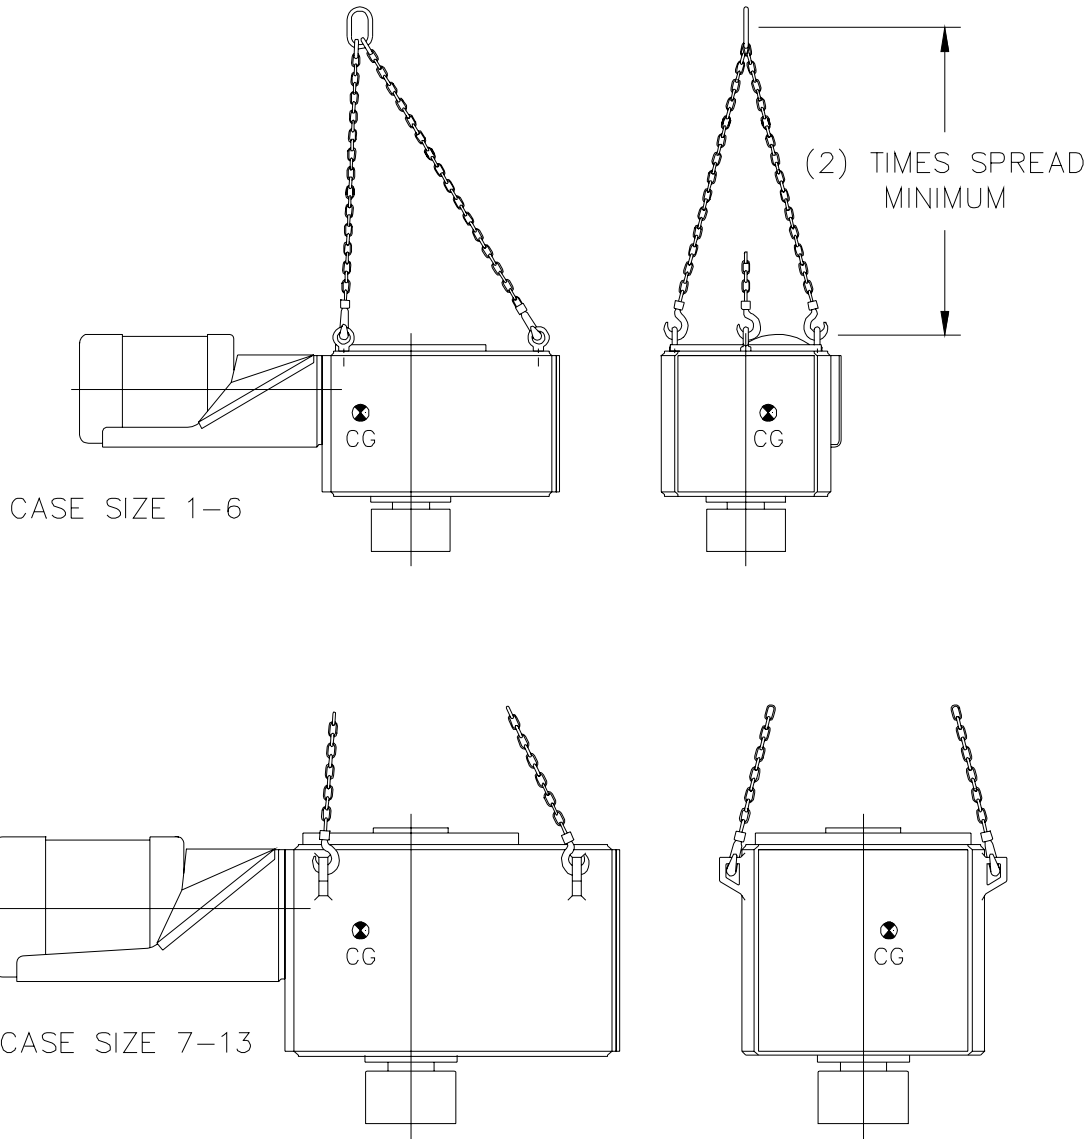

Figure 4. HT Drive Lifting
8. Using a crane or hoist, attach lifting chains to the gearcase, see (*Figure 4, page 4*). Be sure the lifting chains are taught.
9. Using a crane or hoist, attach lifting chains to the gearcase, see (Figure 4, page 4). Be sure the lifting chains are taught.